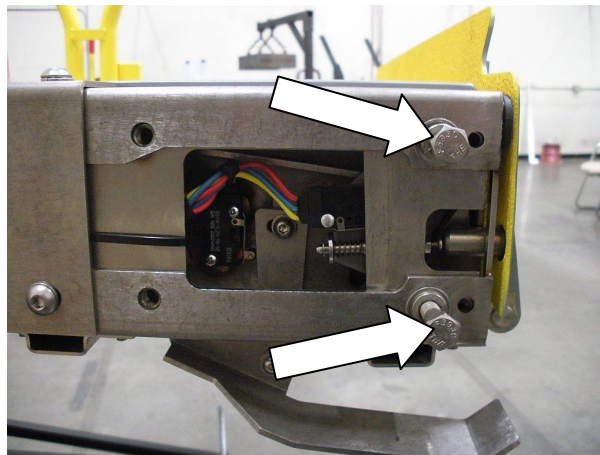

FIGURE 4-16: LH GUIDE BLOCK AND LH PLATFORM ROLLSTOP SWITCH COVER
- 5) Re-install two forward bolts to hold Switch Assembly in place as shown in Figure 4-16.